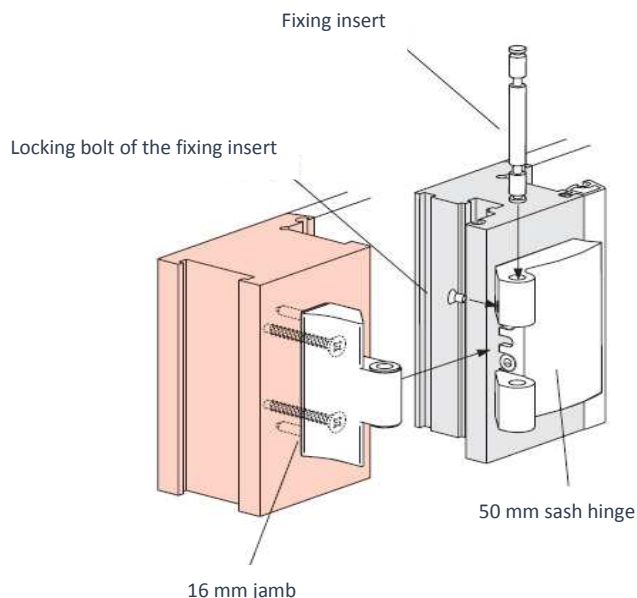

Figure 22. Fastening of ROTO Patio 6080 hinges, jamb
12. Start with installing the first and last sash. Take 16 mm jamb hinge from the hinge set, fix it to the jamb with retainers and fasten with screws. 50 mm sash hinge shall be fixed with a fixing insert to the jamb hinge, the fixing insert shall be fastened with a locking bolt. See Figure 22. Fastening of ROTO Patio hinges, jamb